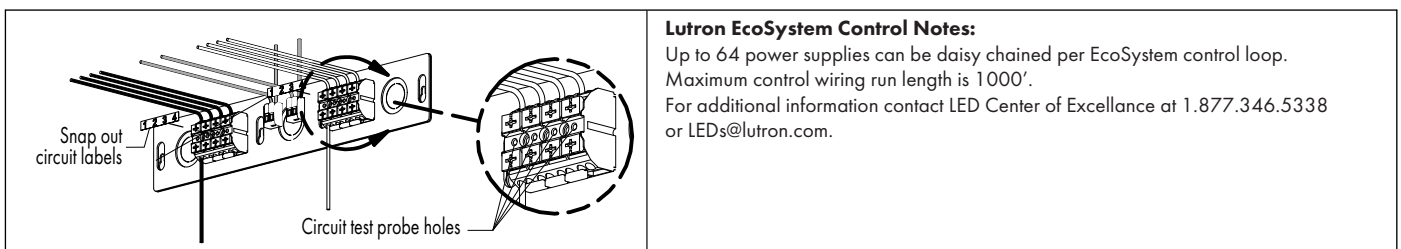

FIG 9.4 Accessing Circuit Probe Holes
3. Check circuit continuity using holes in terminal blocks – FIG 9.4.